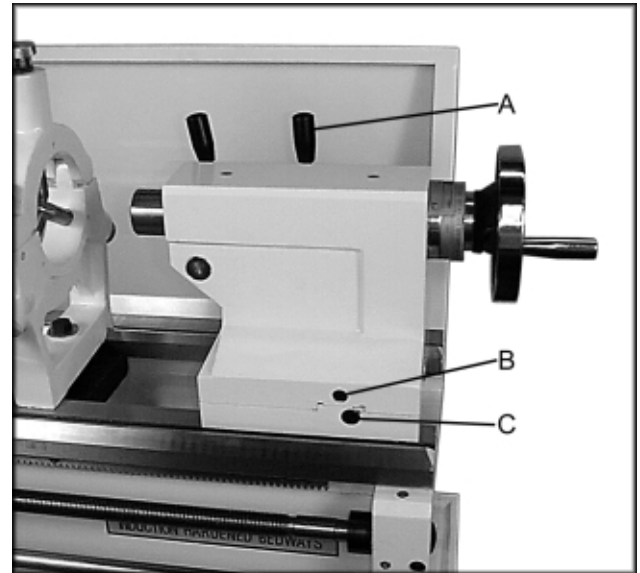

Fig. 23
1. Lock tailstock in position by raising locking handle (A, Fig. 23).
2. Alternately loosen and tighten two hex socket cap screws (B, Fig. 23).
Take up play in the tailstock by tightening two gib screws (C, Fig. 23) on either side of the tailstock base.